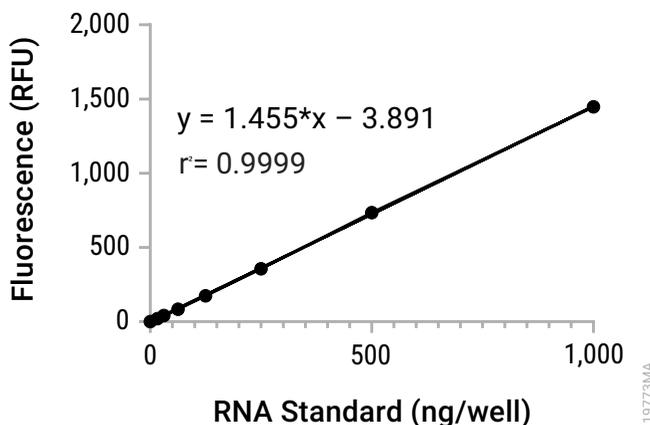

Figure 4. Typical RNA standard curve (96-well format). Linear regression: $y = mx + b$.
2. Determine the linear regression from the standard curve (Figure 4): $y = 1.455x - 3.891$